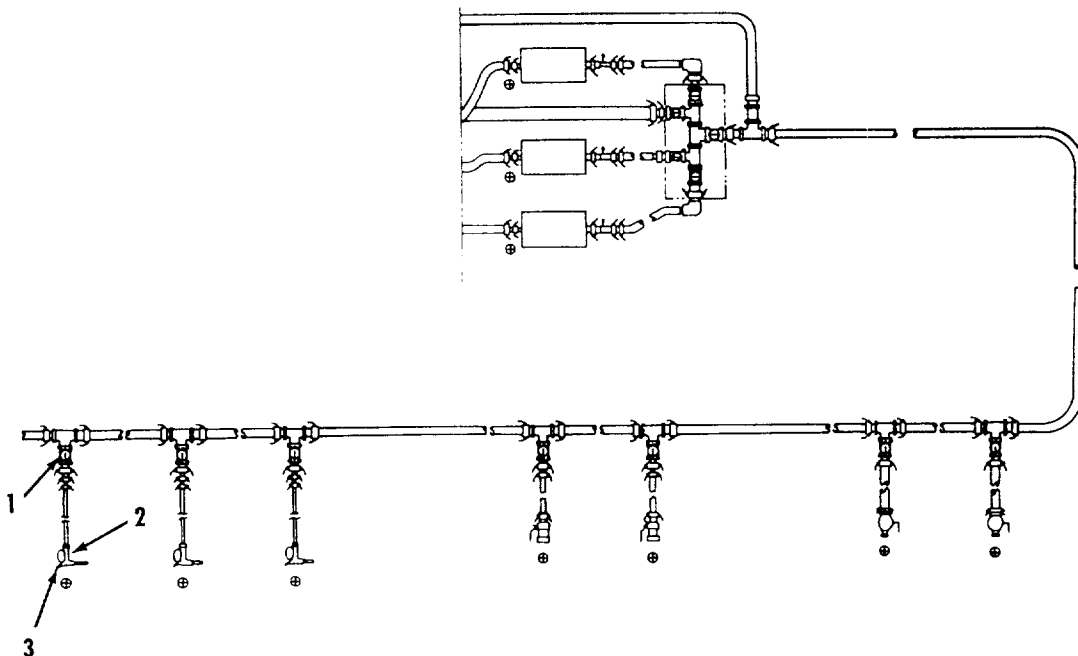

Figure 2-37. Refuel Mode - Refueling Points.
(7) Refuel Mode - Refueling Points. Refer to figure 2-37.